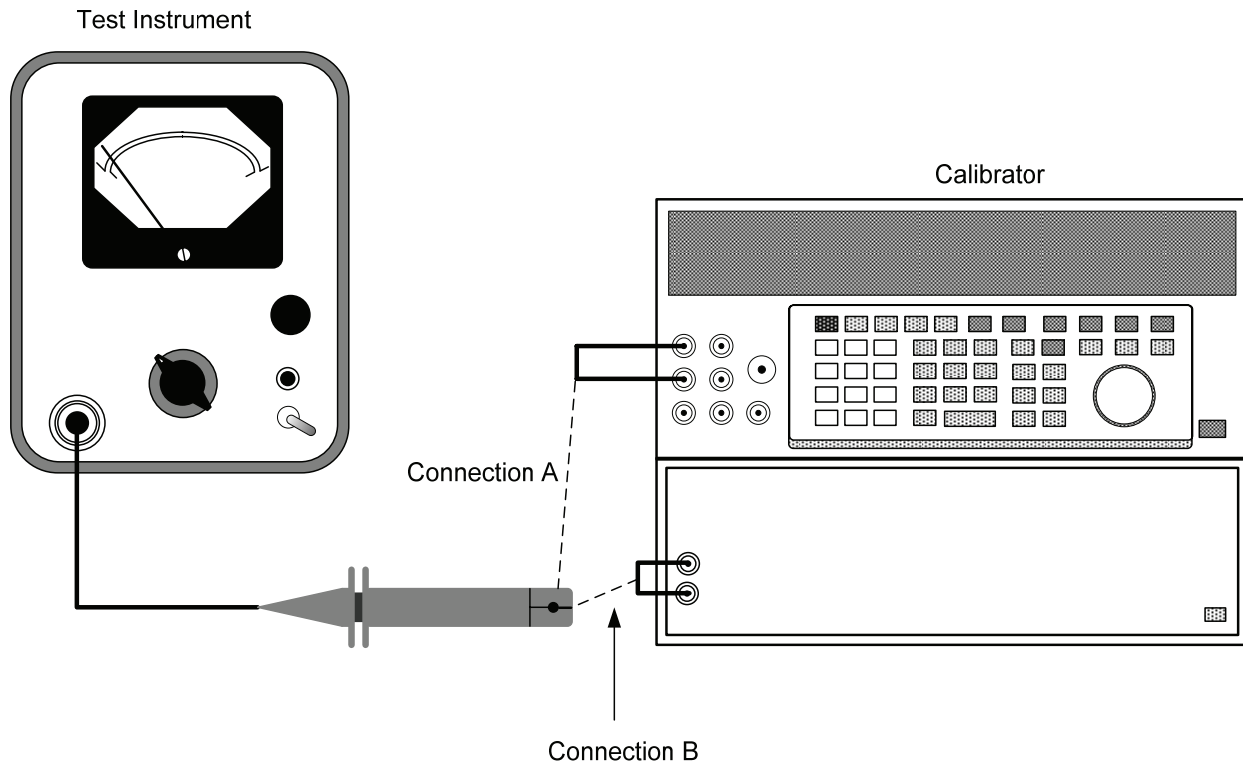

Figure 2. Range and linearity - equipment setup.
- (1) Connect equipment as shown in fig. 2, Connection A.